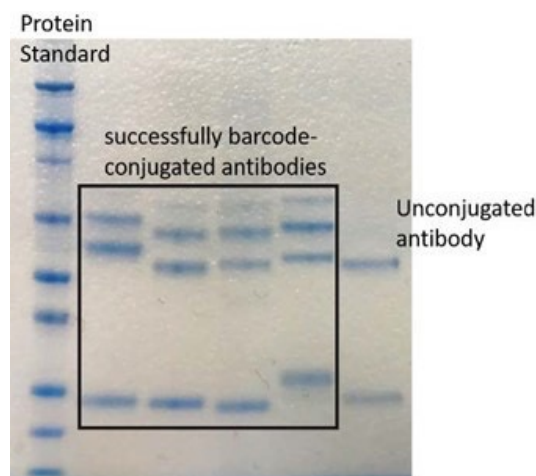

Figure B.4. Gel visualization.
- g. Wash the gel with ddH₂O and leave it on the shaker until bands are visible. (See Figure B.4.) More microwaving steps can be added to accelerate this process, or it can be left overnight on a shaker.